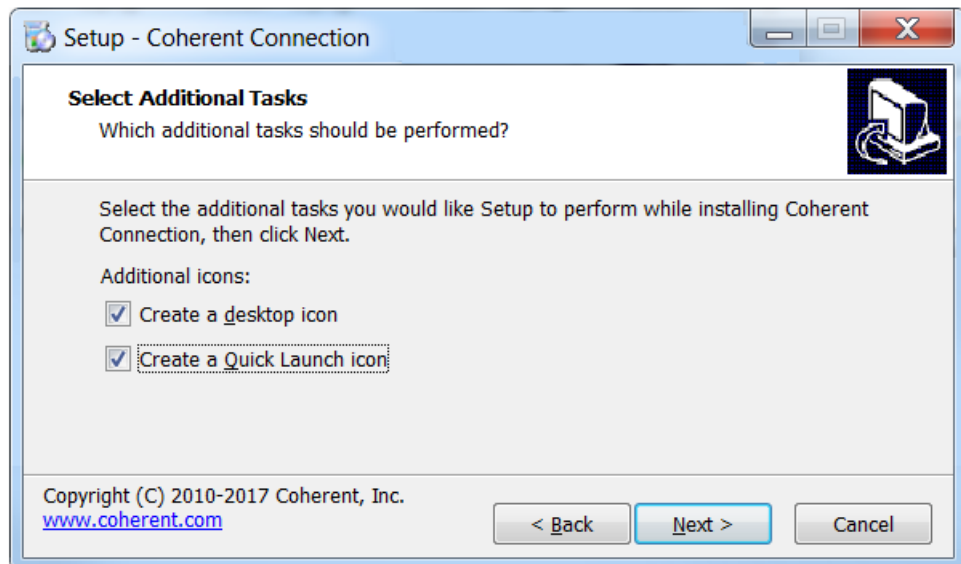

Figure 4-6. Set Desktop or Quick Launch Icon
9. You can create an icon for the software either on your desktop or for a Quick Launch (or both). As shown in Figure 4-6, click the appropriate check box, and then click Next.